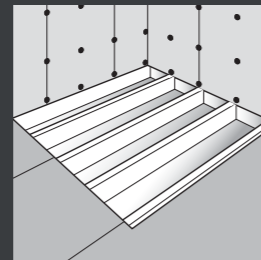

fig 1
**1** Cut out the required section of flooring. **See fig 1.**